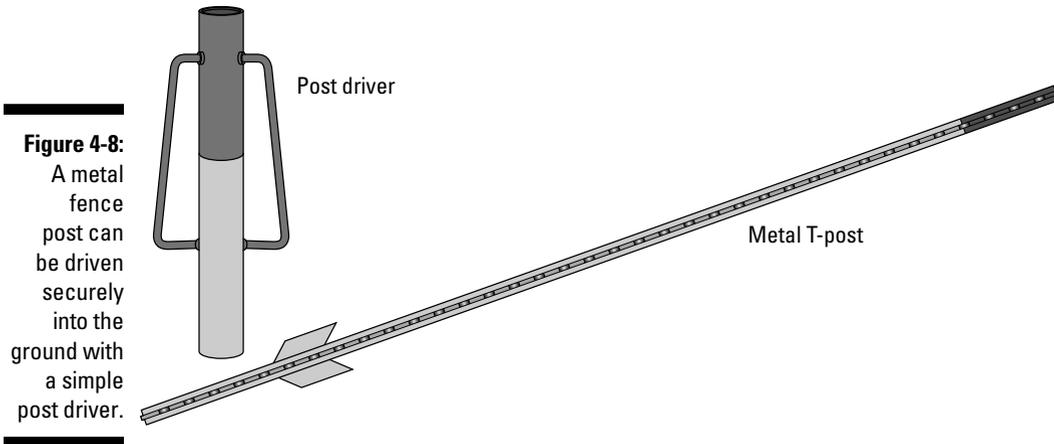

Figure 4-8:
- ✔ **Metal:** The classic metal fence post, often called a *T-post*, (see Figure 4-8) is a piece of steel, typically painted green, with a spade-like plate that helps stabilize the post in the earth. A series of tabs running the length
of the post holds the wire fencing material in place. This kind of post can be driven into the ground with a heavy hammer or a specially-designed tool called a post driver, also shown in Figure 4-8.